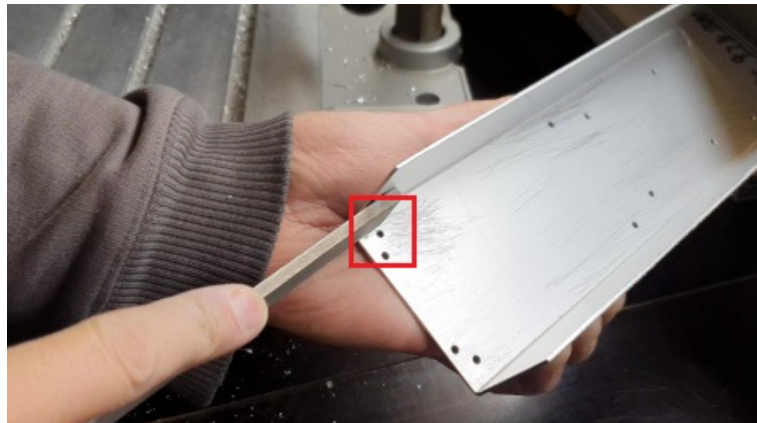

Figure 3.22: Make the housing base conductive
1. File the bottom of the **base** (only the part where the red framed hole is) so that the grounding contact faces well. This operation is not necessary if you are using non anodized sheets (anodized surfaces are none-conductive). See Figure 3.22, page 107.